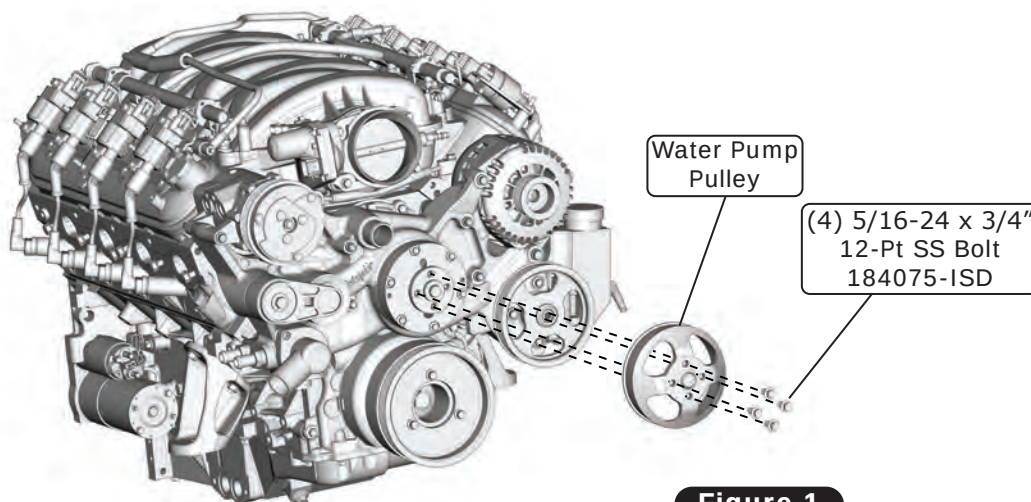

Figure 1
1. Install the water pump pulley onto the water pump using (4) 5/16-24 x 3/4" bolts as shown in Figure 1, below. Torque to 22 lb ft.